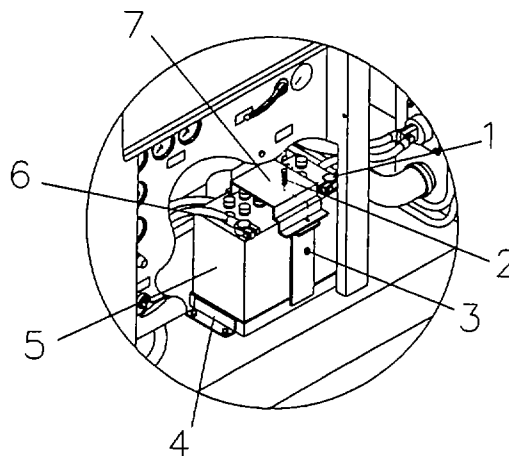

Figure 4-9.
a. Removal. Refer to figure 4-9.
- 1) Disconnect the negative (6) cable from the battery (5).
- 2) Disconnect positive (1) cable from the battery (5).
- 3) Remove the two bolts (2) and locknuts (3) holding the battery clamp plate (7) to the battery cradle (4). Discard locknuts.
- 4) Remove battery clamp plate (7).
- 5) Lift the battery (5) out of its battery cradle (4).
b. Installation. Refer to figure 4-9.
- 1) Place the battery (5) in its battery cradle (4) with the positive connection towards the engine radiator.
- 2) Install the battery clamp plate (7) with the two bolts (2) and locknuts (3).
- 3) Connect the positive (1) battery cable.
- 4) Connect the negative battery cable (6).